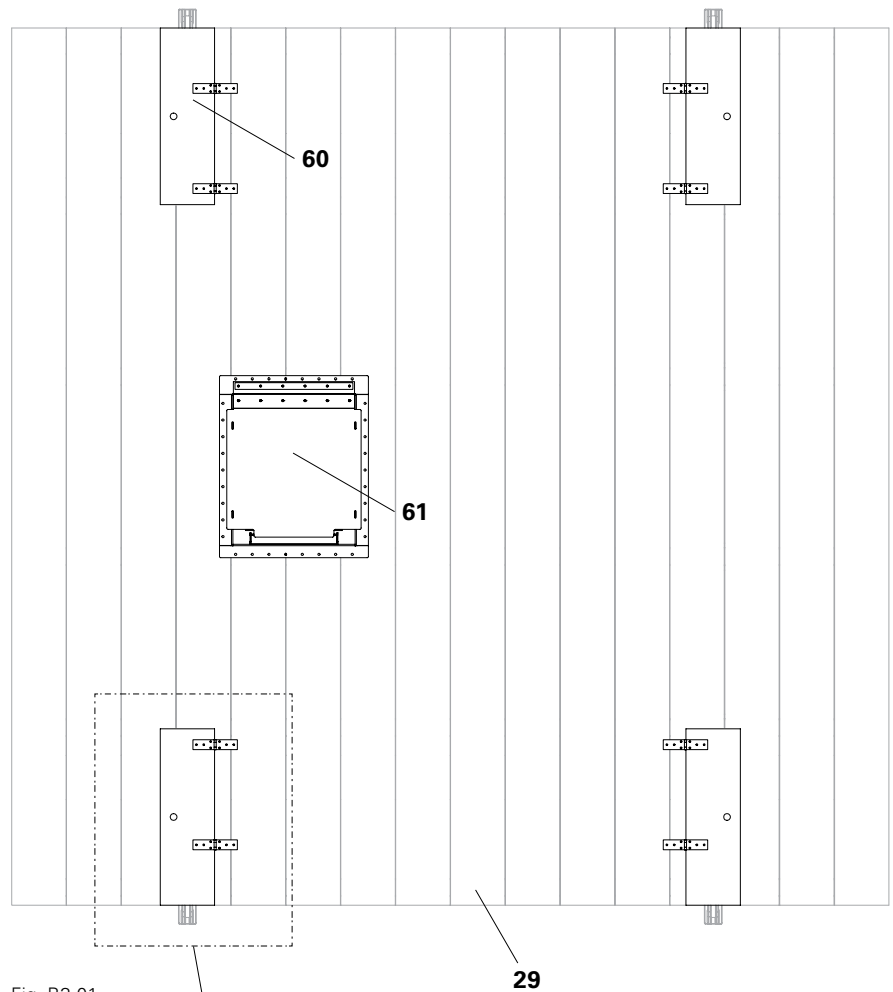

Fig. B3.01
1. At the assembly position, cut out one opening. Opening: 25 x 80 cm. (Fig. B3.01 + B3.02)